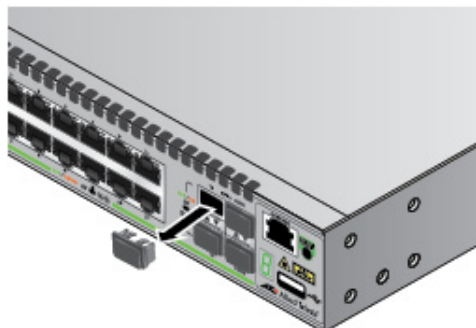

Figure 48. Removing the Dust Plug from an SFP/SFP+ Slot
1. Remove the dust plug from a transceiver slot on the switch. See Figure 48.